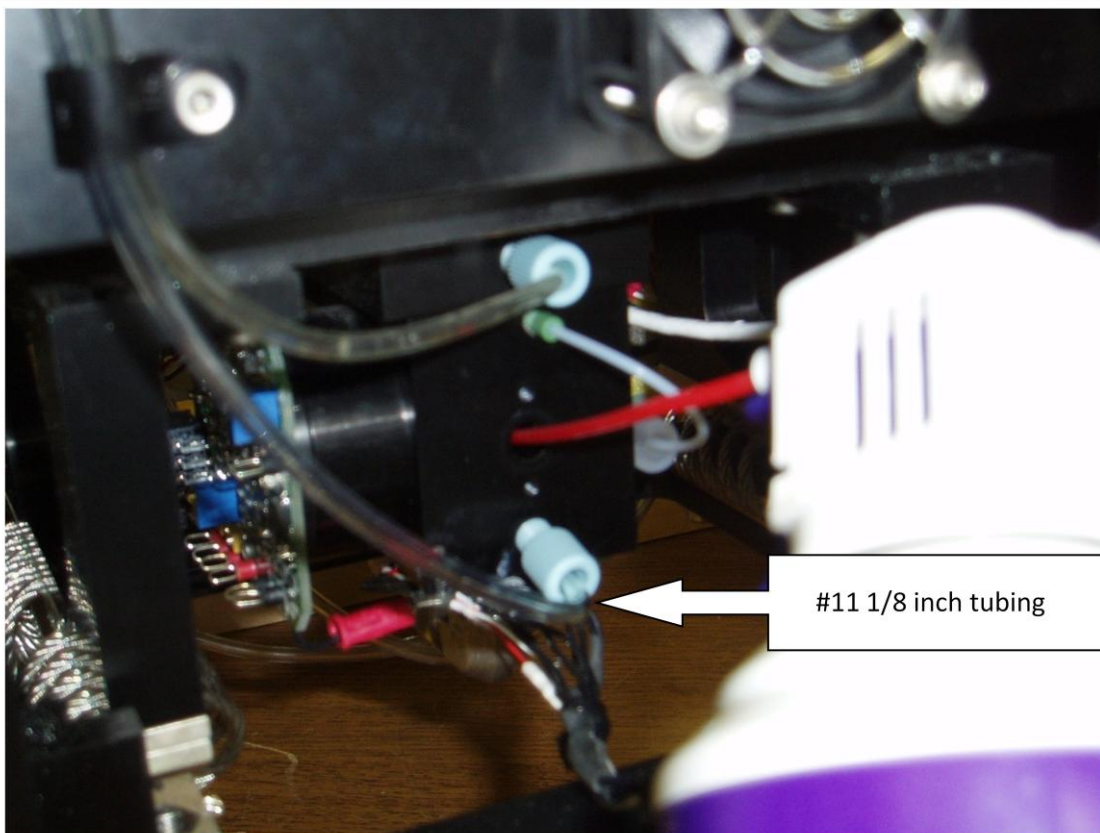

Figure 19: Air Drying OPC with Canned Air
5. Give a couple of short burst of clean dry air (Figure 19). If there is excessive water in the OPC, you will notice water mist coming back out of the hole as you spray into it. Keep applying short bursts until no water mist comes out.